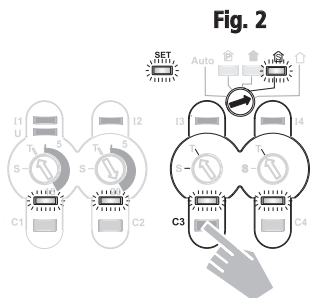

Fig. 2
3. Press the manual key for the channel to be changed until the control LED lights up (see Fig. 2, channel C3).